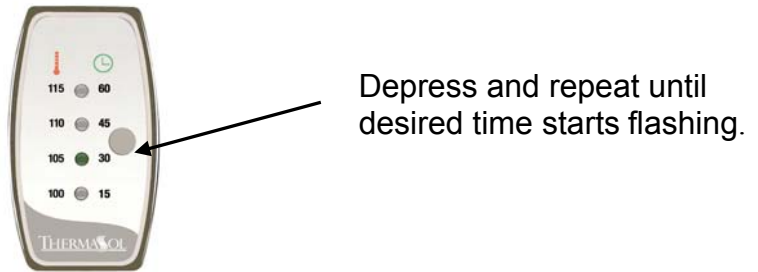

Figure 3
- 2. Changing Session Time.** While the green LED is still flashing (within 4 seconds), momentarily press the “Control Button”. Repeat until the green LED associated with your desired time starts flashing. Once the desired time is flashing, wait 4 seconds and that time will be accepted by the control. (Figure 3)